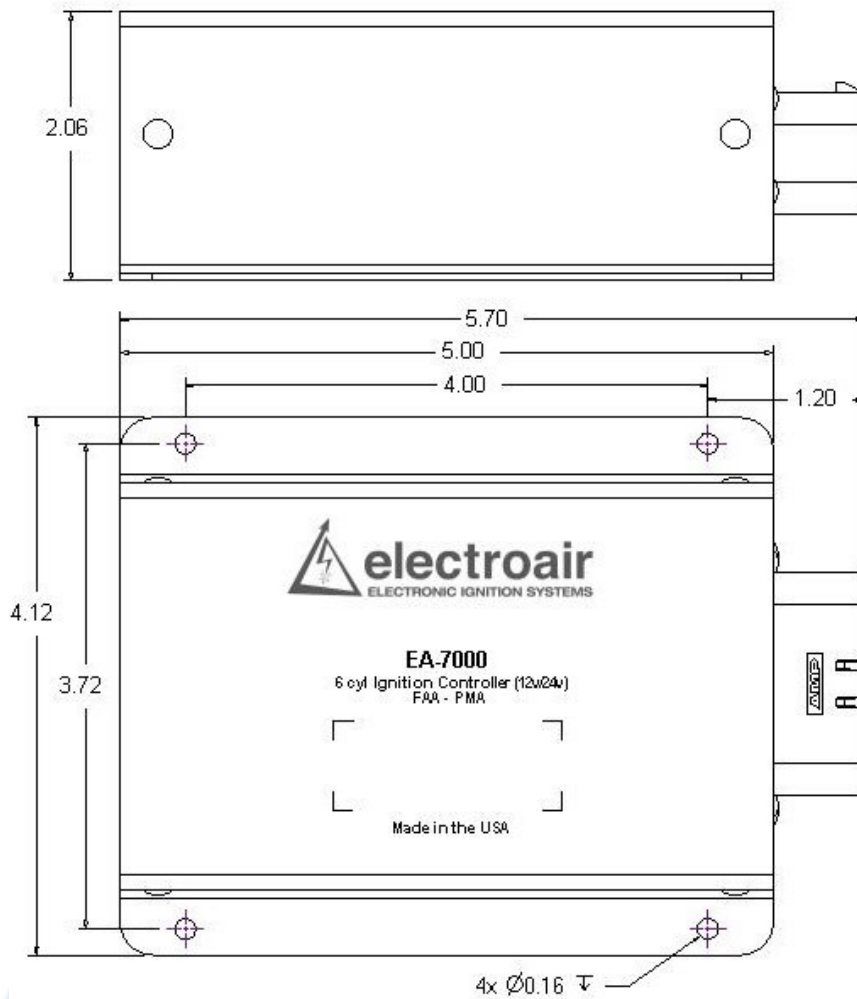

Figure 8: Part Number EA-7000; all dimensions in inches.
- a. **EA-7000 Installation:** Install p/n EA-7000 EIS Controller where temperatures will not exceed 150°F. Because of this, Electroair requires that the EIS Controller be mounted on the cockpit side of the firewall with the shortest practical distance from the coil pack for the wiring harness runs. Refer to figure 8 for controller dimensions.